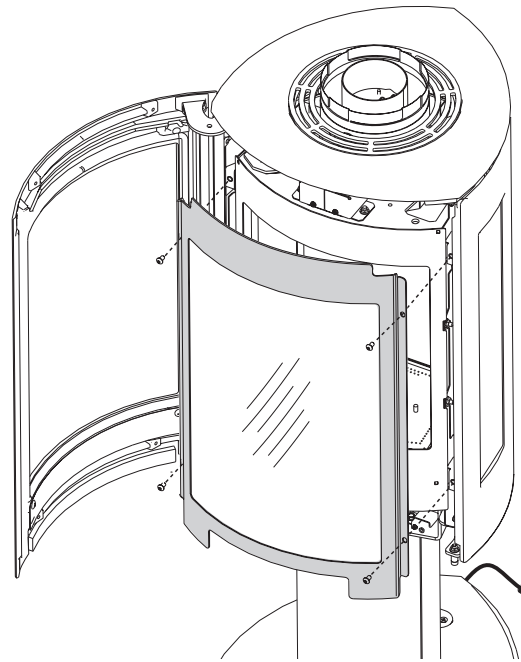

Figure 1. Remove glass frame.
2. Remove the glass frame using the 4 mm hex key supplied with the stove. See fig. 1.